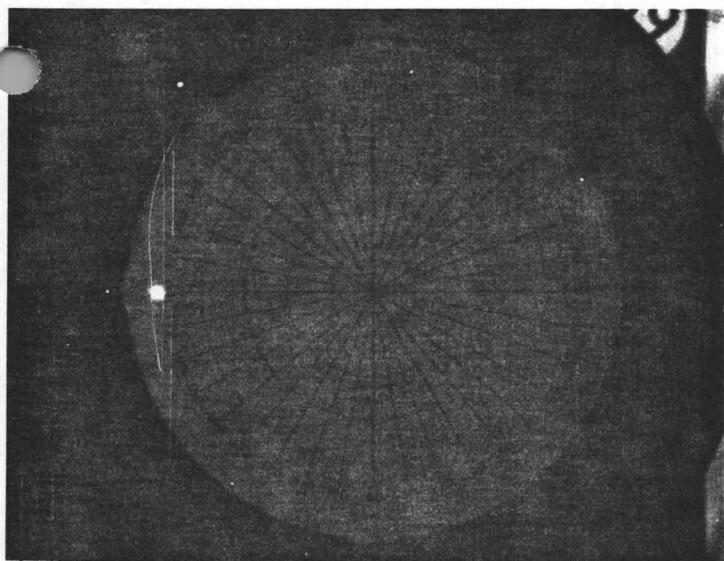

Fig. 2
- B. Now push the CW marker and adjust the AMPL VERNIER on the 8410 to mid screen w/the horiz position center it on the center vertical line also. See fig. 2
- G. Put short back on 511 and retweek the controls to reset as prescribed in Fig. 2 and 3.